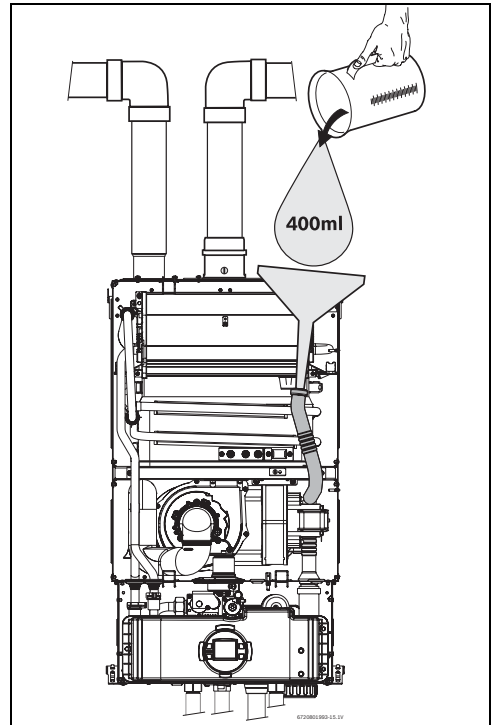

Fig. 34 Filling the condensate trap after installation.
- Fill the condensate trap by pouring approx. 14 oz. (400ml) of water into the top of the drain tube. To avoid damage to the appliance use a funnel in this operation, see Fig. 34 .